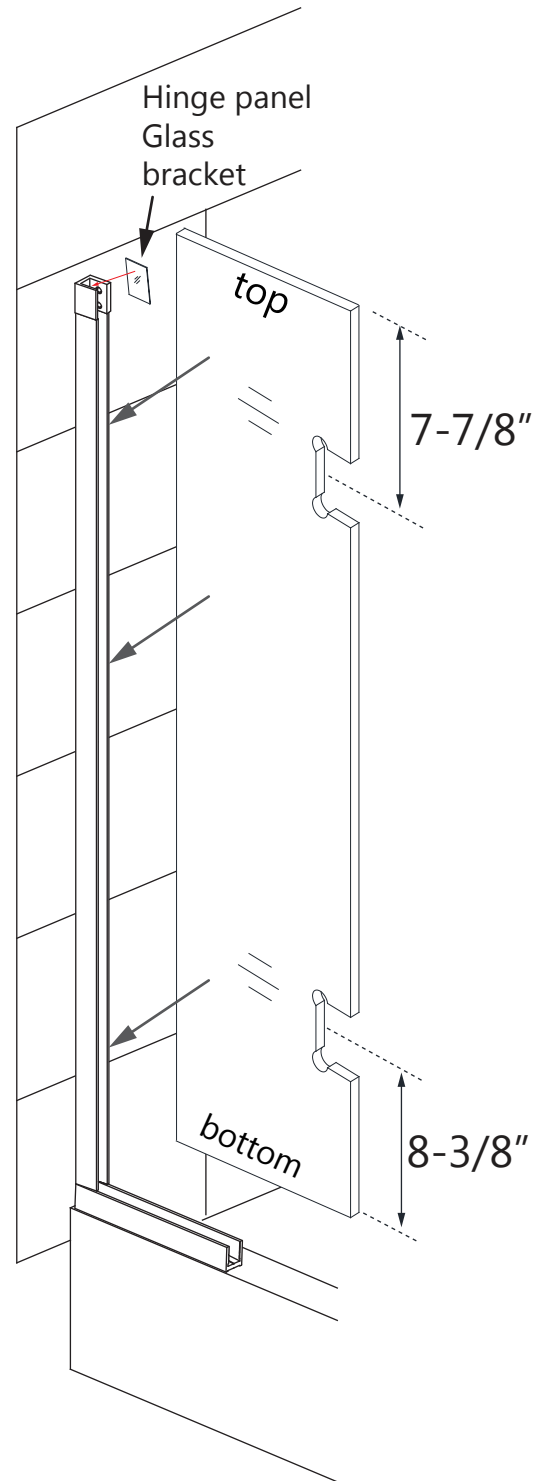

Fig 8
8. Install the hinge panel glass into the u-channel. (Note the top and bottom of the hinge panel glass) Install the Hinge Panel Glass bracket gasket. (**Fig 8**)